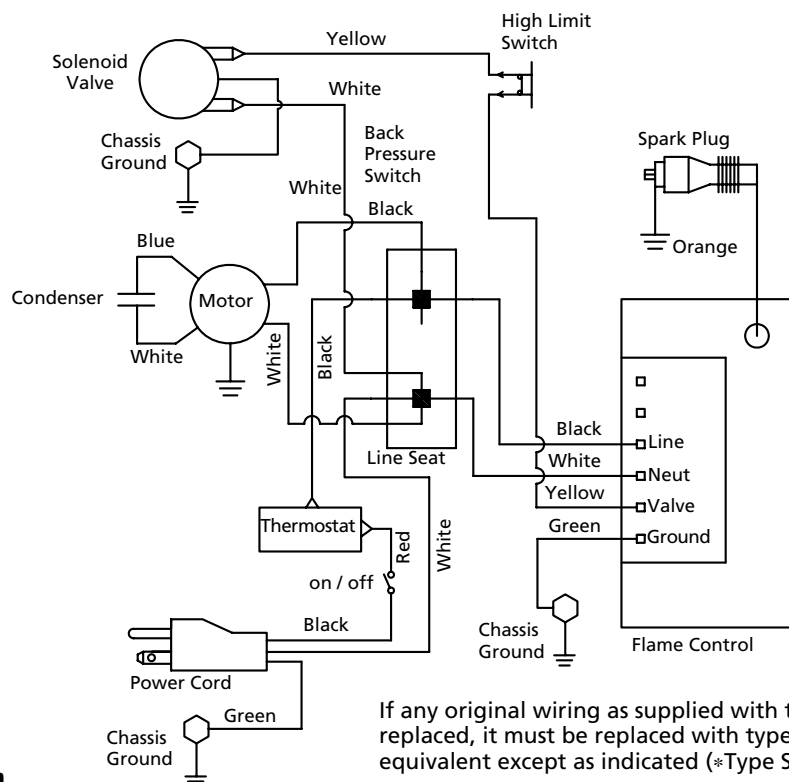

Figure 8 – Wiring Diagram
10. Reconnect lead wires as shown in the Wiring Diagram (Figure 8).